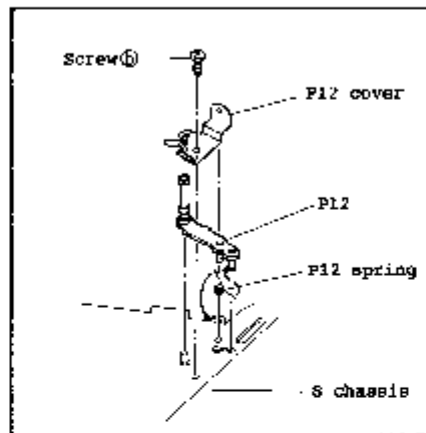

Fig. III-25
- (1) Referring to 2 and 7 (P. 33, 37), remove the cassette component and the drum assembly by removing three screws @.
- (2) Take out the loading assembly.
15. P12 (Fig. III-25)